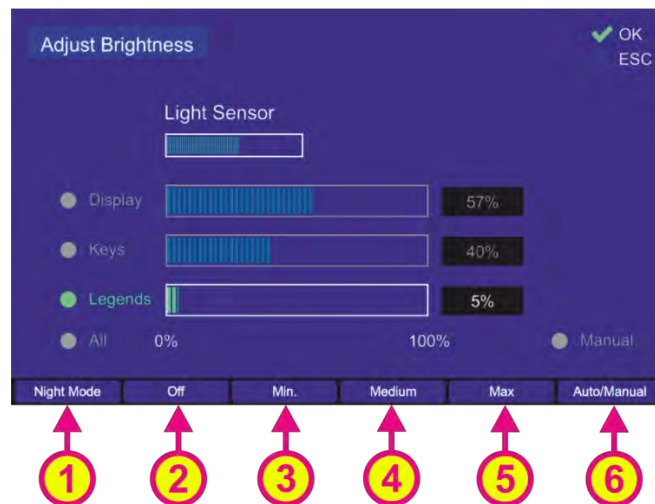

Fig. 168 "Adjust Brightness" dialog
- Use the hotkey “Night Mode” (s. Fig. 168, position 1) to switch over to the night mode manually.
- The hotkey “Off” (s. Fig. 168, position 2) is only available if “Legends” is selected. Pressing this hotkey deactivates the illumination of the legends.
- Use the hotkey “Min.” (s. Fig. 168, position 3), “Medium” (s. Fig. 168, position 4) and “Max.” (s. Fig. 168, position 5) in order to set the appropriate luminosity quickly.
- Use the hotkey “Auto/Manual” (s. Fig. 168, position 6) in order to set the automatic or manual brightness adjustment mode. The currently selected adjustment mode is indicated above this hotkey.